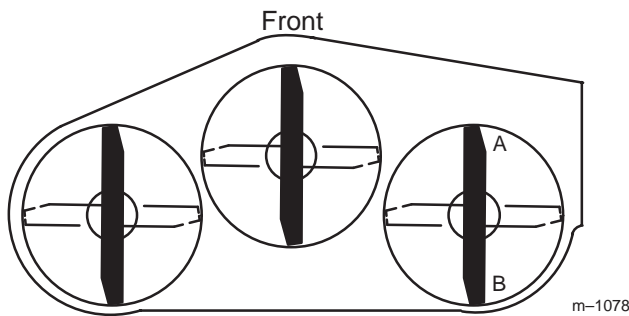
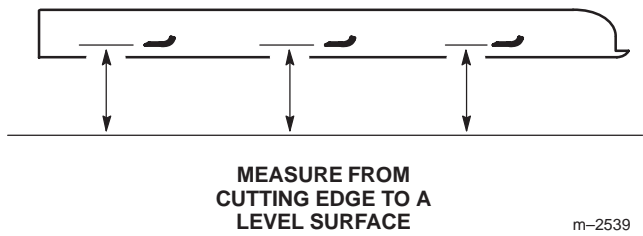

Figure 66
Figure 67
1. Position the **right** blade front-to-rear (Fig. 66).
2. Measure the right blade at the **A** location (Fig. 66), from a level surface to the cutting edge of the blade tip (Fig. 67).
4. Measure the right blade at the **B** location (Fig. 66), from a level surface to the cutting edge of the blade tip (Fig. 67).
6. The mower blade should be a **1/4 to 3/8 inch (6 to 10 mm) lower at position A than at position B** (Fig. 66). If it is not correct, proceed to the following steps.